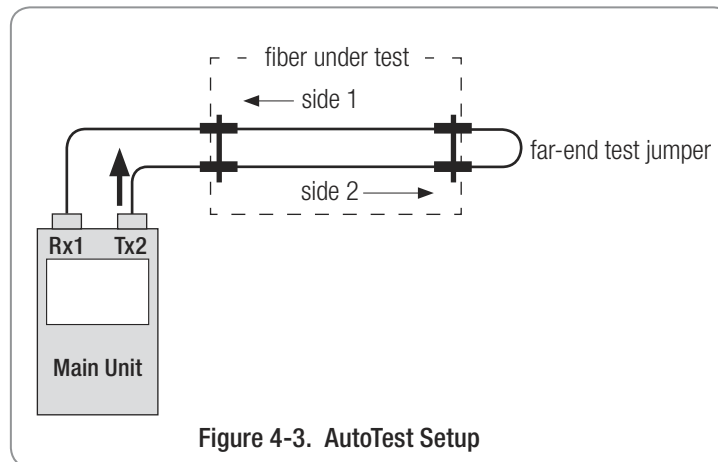

Figure 4-3. AutoTest Setup
- 5 Connect to the two fibers under test to the Main Unit and the far-end test jumper (Figure 4-3)